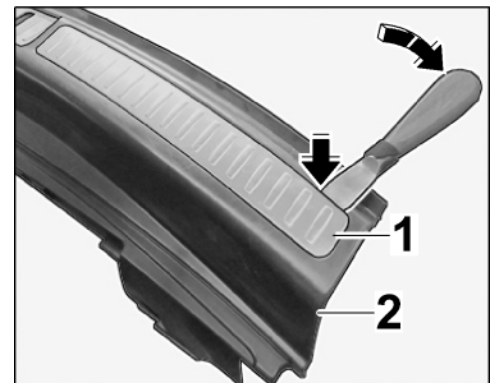

Figure 26
- 4.1.2 Carefully lever trim (left/right) off lock carrier cover (rear) using POM wedge. ⇒ *Figure 26*